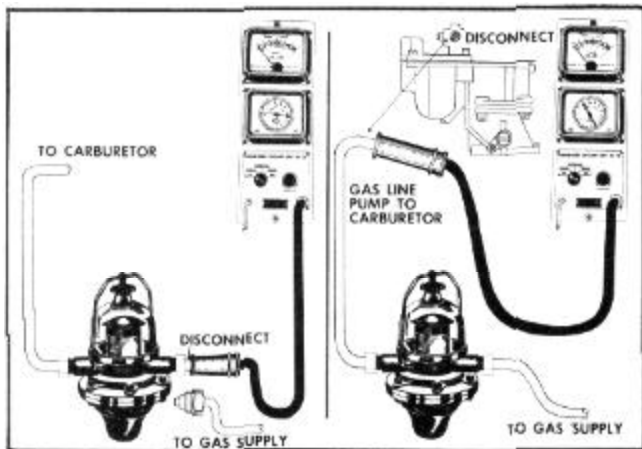

FIGURE 24
4. Disconnect the fuel line at the carburetor and connect the fuel pump gauge, Figure 24.